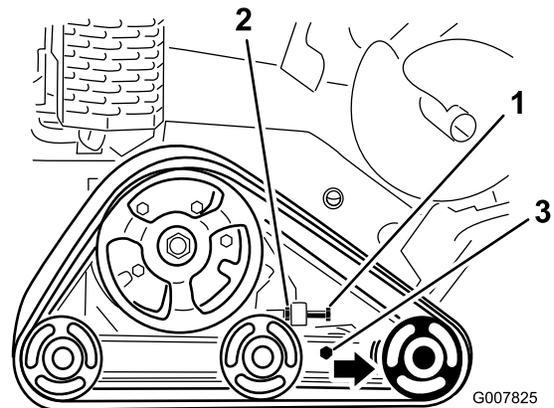

Figure 48
3. Loosen the jam nut on the track tensioning bolt and the clamp bolts on the tension arm (Figure 48).
4. Torque the tensioning bolt to 24 to 30 ft-lb (32.5 to 40 N-m) to tighten the track (Figure 48).
4. Back out the tensioning bolt and jam nut (Figure 48).
5. Loosen the clamp bolts (Figure 48).